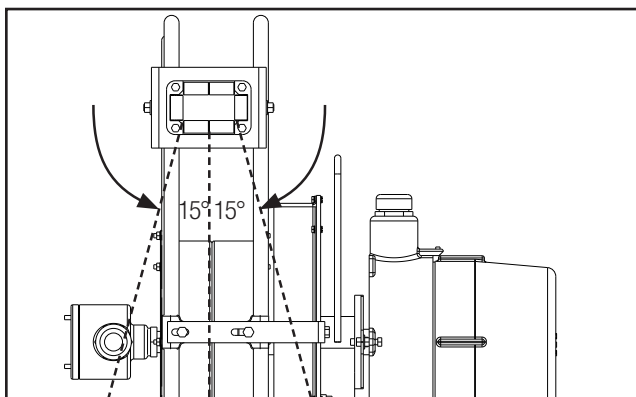

Figure 10-5 Cable Deflection with Roller Guide
3. The cable should extend perpendicular to the rotation of the spool. The cable deflection should not exceed 15° to either side of the centerline of the spool. See **Figure 10-5**.
5. If the total angle of deflection exceeds 30° , a Pivot Base or two way payout guide should be used, otherwise excessive cable wear and unreliable operation will result. See **Figure 10-5**.